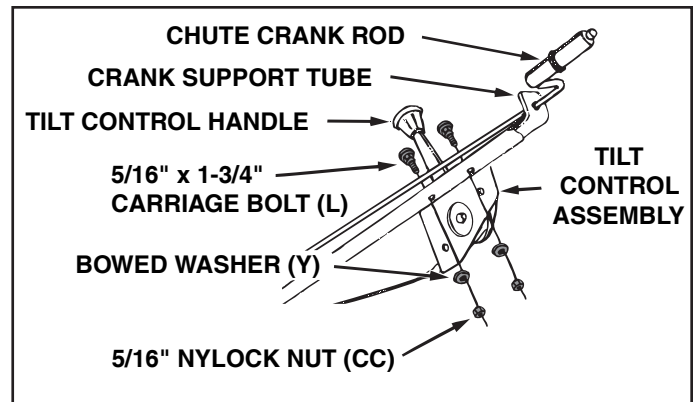

FIGURE 50 LEFT SIDE VIEW
STEP 51: (SEE FIGURE 50)
- Attach the chute tilt control assembly to the top side of the crank support tube using two 5/16" x 1-3/4" carriage bolts (L), bowed washers (Y) and 5/16" Nylock nuts (CC).